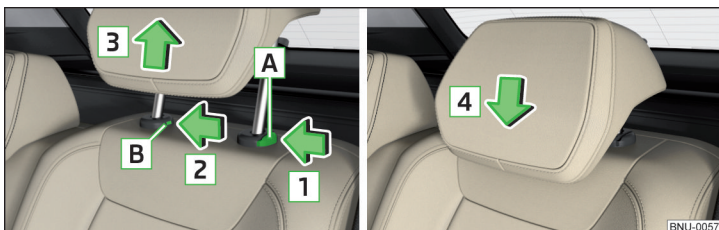

Fig. 98 Removing/inserting the rear headrest
- › Hold the locking button **A** in the direction of arrow **1**, at the same time using a flat screwdriver with a max. width of 5 mm to press the locking button in the opening **B** in the direction of arrow **2** and pull out the rest in the direction of arrow **3** » Fig. 98.
For VarioFlex, the extended headrest can only be removed from the middle seat only when the safety button **A** » Fig. 98 is held.